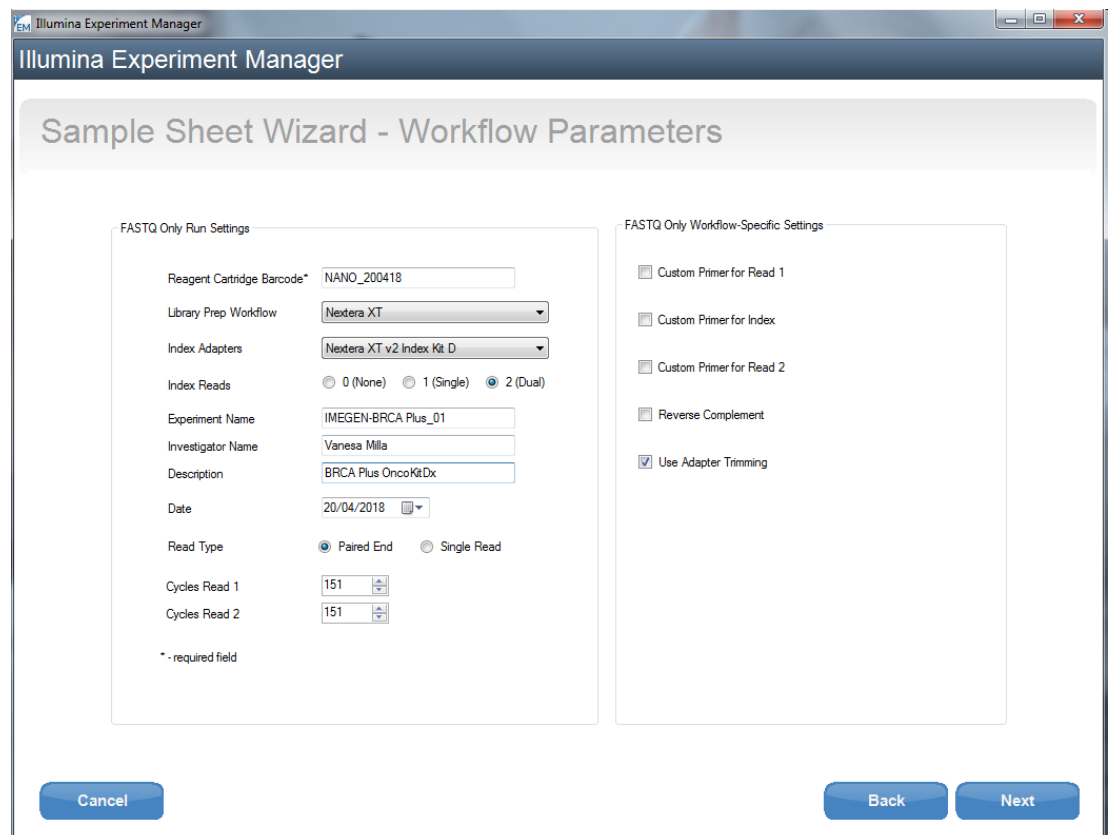

Figure 1: Sample Sheet creation with Illumina Experiment Manager
- 04 Fill out the fields for each test: *Reagent Cartridge Barcode*, *Library Prep Workflow (Nextera XT)*, *Index Adapters (Kit D)*, *Index Reads (2, dual)*, *Experiment Name*, *Investigator Name* and *Description*. The rest of the fields should appear as in the Figure 1 for germ